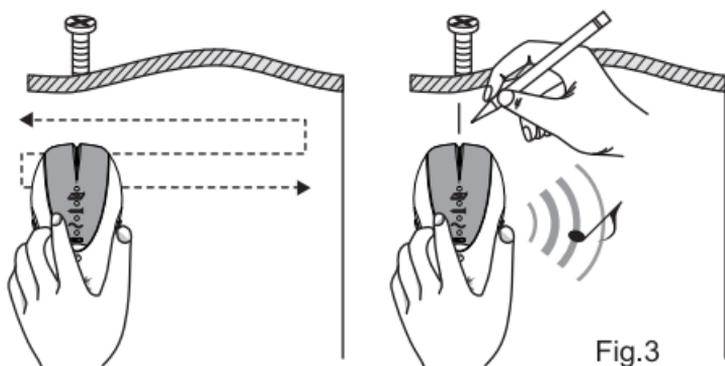

Fig.3
2. use the detector slowly slide unit horizontally across the wall, right or left, when metal is detected, the indicator LED (4) will light up and buzzer will sound continuously. You have located the edge of the metal. Mark this spot. (fig.3)